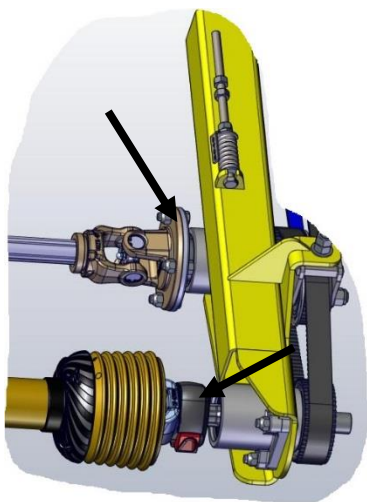

Figure 29
1. Remove the right-hand drive shaft that connects the GT case to the combine. Remove the knife drive shaft by removing the 4 mounting bolts on the GT case side of the knife drive shaft. Figure 29